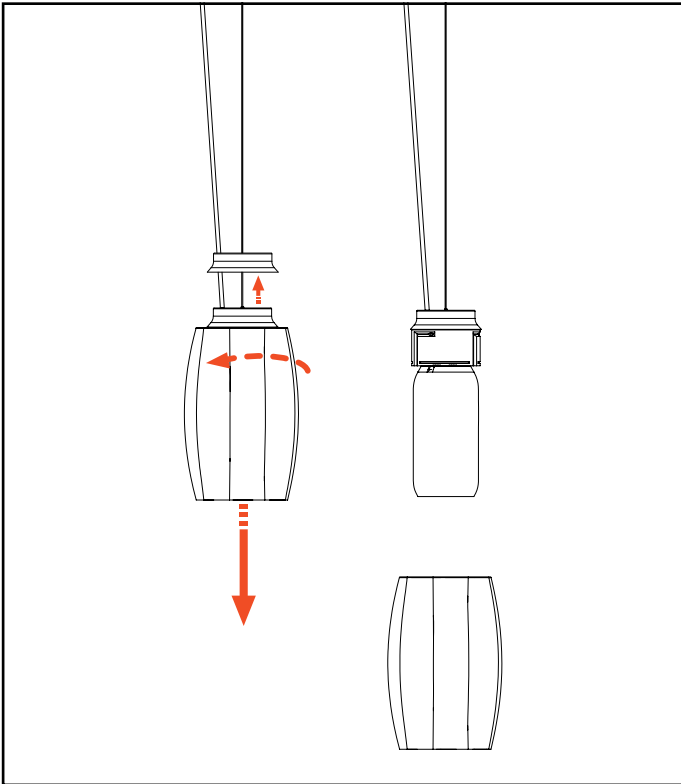

Figure 15
3. Remove the top finial, hold the light engine shroud, and twist the shade counter clockwise to remove the shade. (Figure 15)